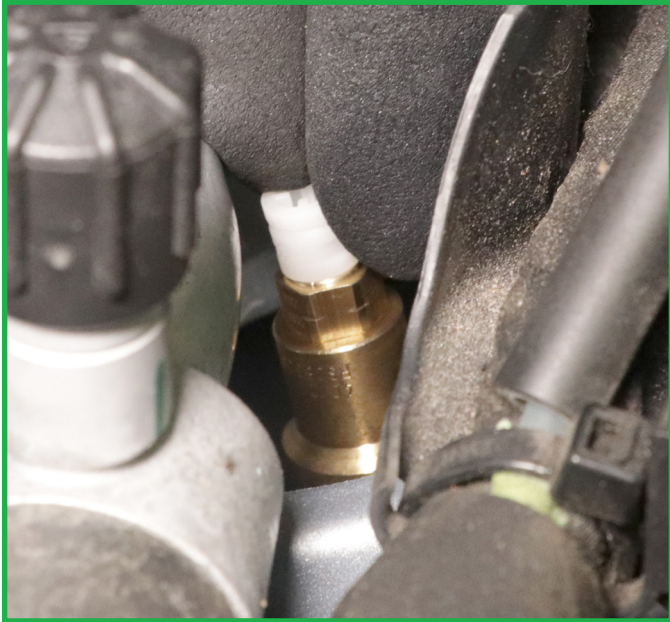

FIGURE 23
7. Install the provided air fitting on to the air valve of the strut and remove the shipping pin. (Figures 23, 24)